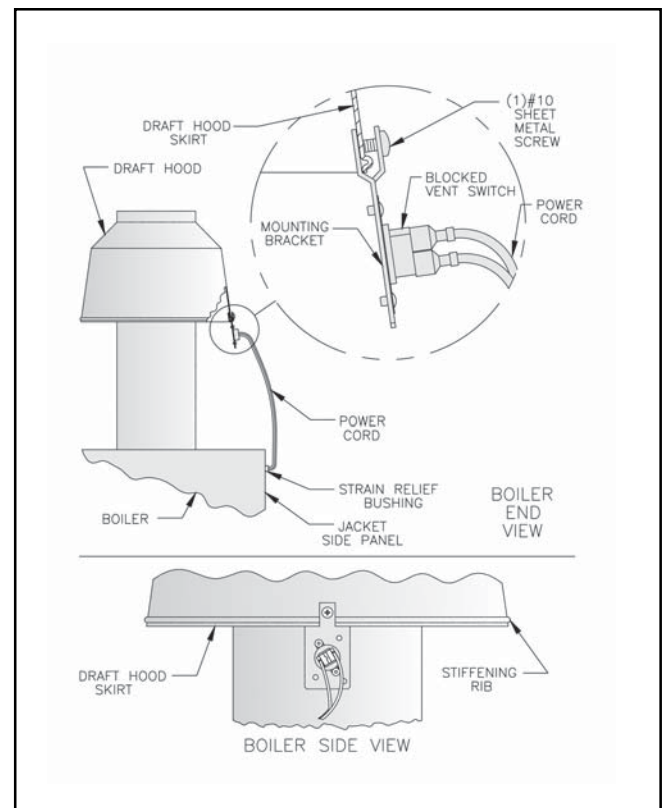

Figure 27: Blocked Vent Switch Installation
2. Position mounting bracket onto lower edge of Draft Hood skirt. Locate center tooth (with #10 sheet metal screw) on outside and other two teeth inside Draft Hood skirt. See Figure 27.
7. Verify power cord, mounting bracket, and Blocked Vent Switch are secure and located as shown in Figure 27.